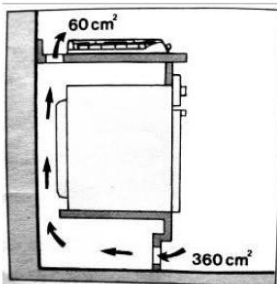
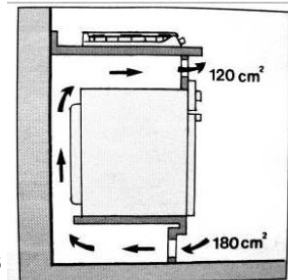

Fig. 5
Fig. 6
- i) In the case of installing an oven to fit under the gas plate, it is recommended to improve the ventilation around the oven, to avoid excessive heating, place a grid for the air intake from the bottom of the oven and another grid in the oven. upper part of the hob (Fig. 5) or in the front-upper part of the oven (Fig. 6).